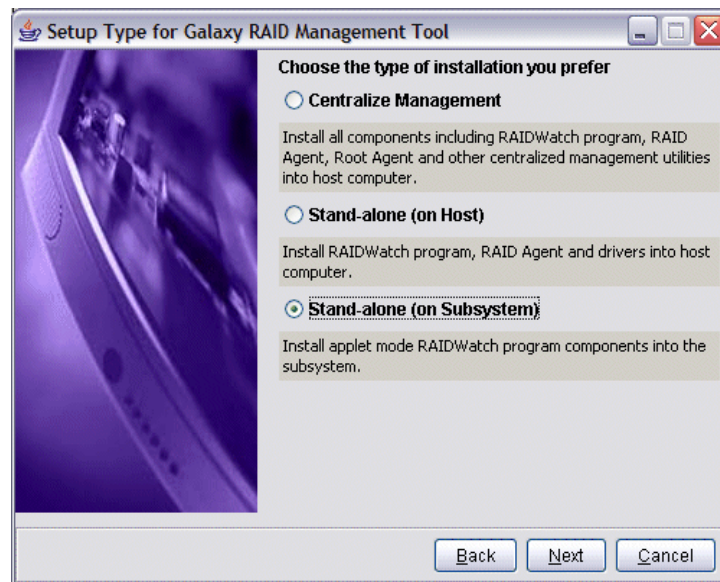

Figure 1-3: Installation Options
RAIDWatch supports local or remote management of Galaxy subsystems over a LAN/WAN or the Internet using the TCP/IP protocol. RAIDWatch can be highly flexible to access to a RAID subsystem. When “Advanced” installation is chosen during the installation process, three (3) installation schemes are available for you to select using the install shield program. (See **Figure 1-3**) Below sections are the explanations of the three options.